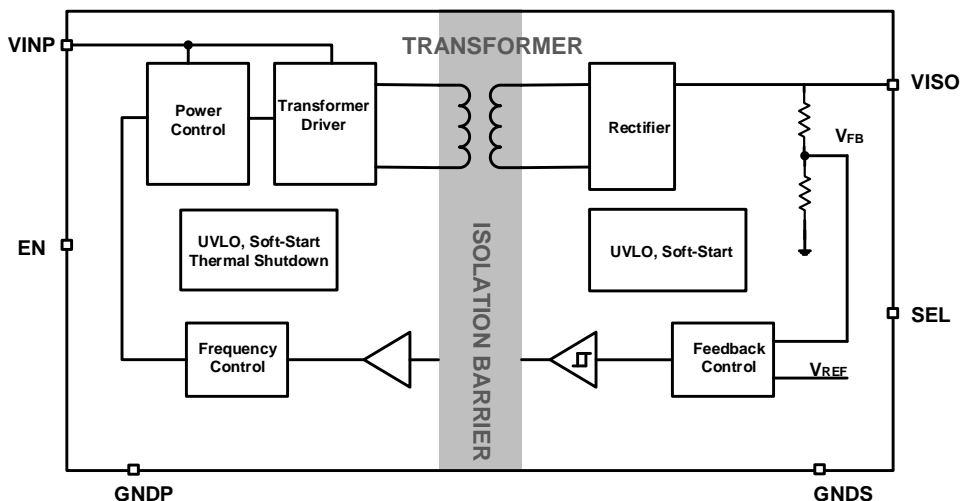

Figure 8-1. Functional Block Diagrams
The CA-IS3115AW is a family of complete isolated DC-DC converters designed to provide isolated power with up to 1.5W output power across a 5kV_{RMS} isolation barrier. The devices operate over 4.5V to 5.5V input voltage range and use a proprietary control mechanism. The input supply V_{INP} is provided to the primary power controller that switches the power stage connected to the integrated transformer. Power is transferred to the secondary side and regulated to a fixed output voltage set by the SEL pin. The soft-start feature allows to reduce input inrush current and avoid output overshoot. These devices also incorporate an output enable (EN) control and undervoltage lockout(UVLO) function that allows the user to turn on the part at the desired input-voltage level. Figure 8-1 shows the CA-IS3115AW’s functional block diagram. Connect the EN pin to V_{INP} or force this pin high to turn on the DC-DC converter. Force this pin low to disable the device and enter low-current shutdown mode. These devices offer a ready-made, reliable, easy-to-use solution and allow users save PCB space and reduce design time for the popular 5V, 3.3V power supply systems.